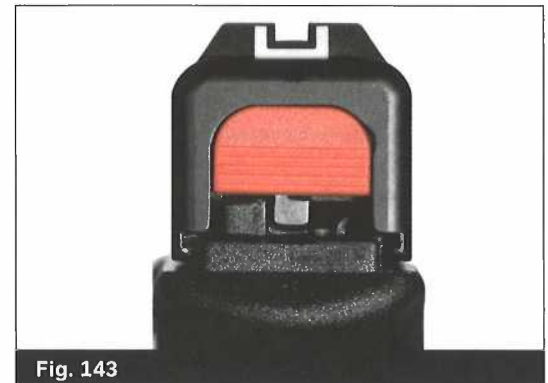

Fig. 143
- Replace the standard slide cover plate with the orange half slide cover plate. Determine how much engagement you can see. (Fig. 143)